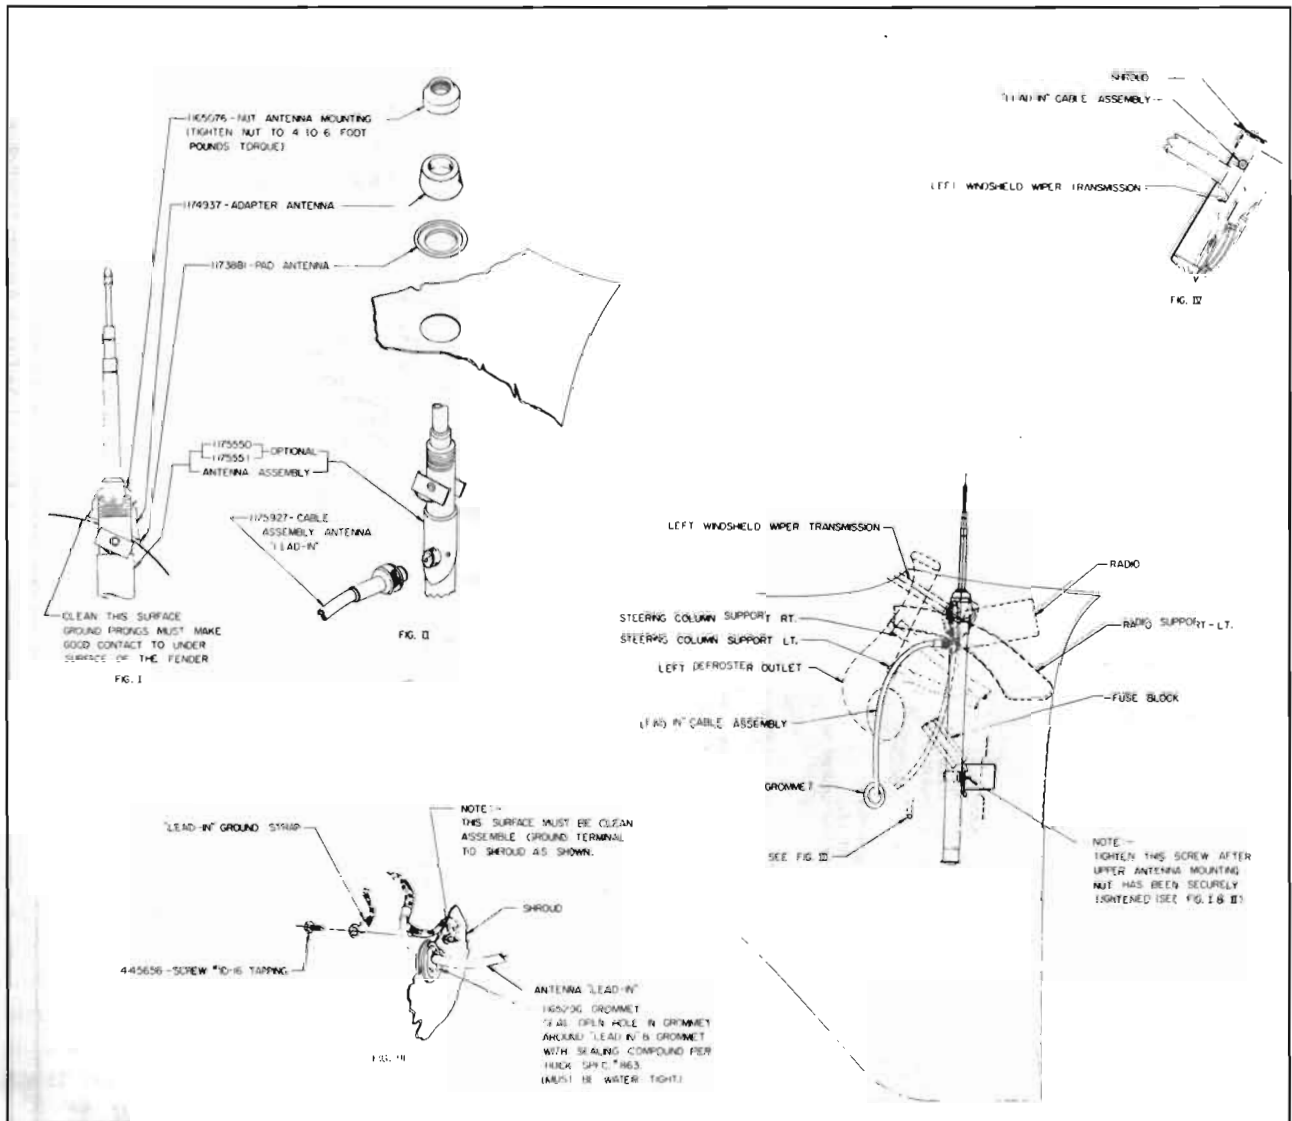

Figure 11-6—Manual Antenna Installation Details
4. Connect antenna lead-in cable to the antenna assembly, tighten securely, then insert antenna assembly through pad from under fender, with antenna lead-in connector pointing toward front of car. **NOTE: Do not use soap or grease in this operation.** See figure 11-6.
6. Connect antenna clamp (on body tube) to mounting support bracket, fully extend antenna, and adjust mounting support and clamp so that the antenna will lean two degrees rearward and two degrees inward from vertical. Tighten support and clamp securely. See figure 11-6.
9. Attach cable ground lead to cowl at hole provided. Be sure to clean paint from cowl surface at this point, then attach the lead terminal with a 10-16 x 1/2" tapping screw. See figure 11-6.